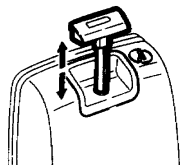

Fig. 11
11. C-200 CW only: After use, open valve blade (if still closed) and flush, lift the flush handle and press it down (fig. 11). After flushing, close the blade by turning the blade handle.